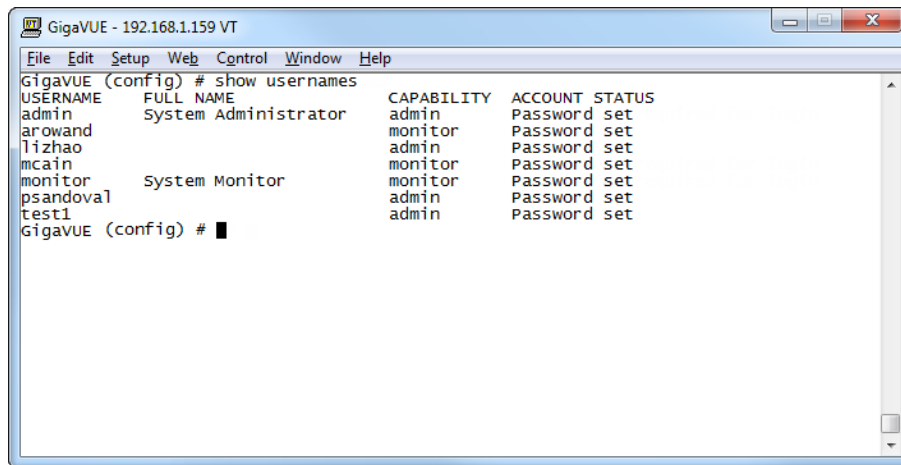

Figure 6 Reviewing the User List
- Once you have configured these basic user accounts, use the **show usernames** command to review your settings. Figure 6 Reviewing the User List shows some sample **show usernames** output after several users have been added.